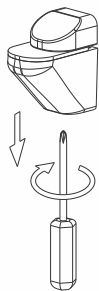

Fig. 2
5. Loosen the screw below the shelf support (Refer Fig.2).
2. Insert the soft packing into the grub screw as shown in Fig.2.